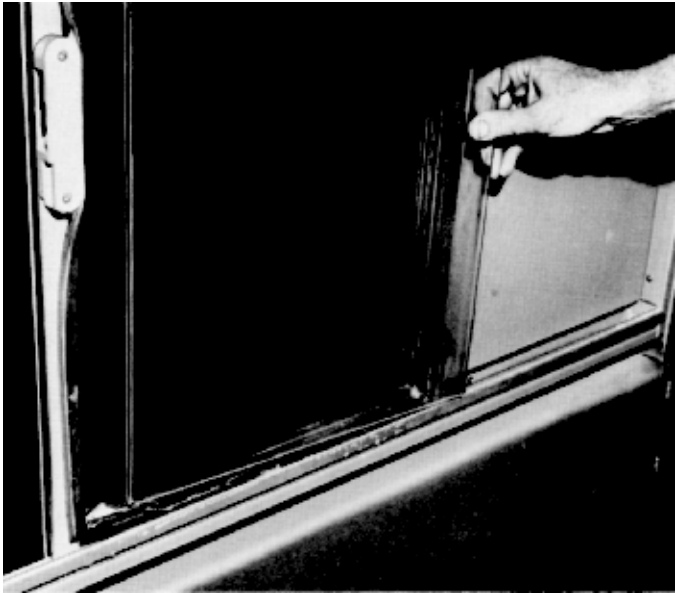

Fig. 17 - Initial Step In Glass Application
3. Following previously described window application, install glass, Fig. 17.